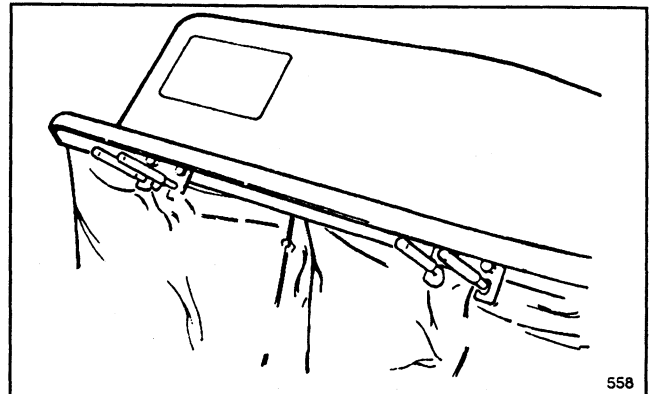

Figure 8
4. Lift rear of bag up to bag cover. Squeeze bag handles, allowing them to be positioned in bag frame brackets. Release bag handles, locking them in brackets (Fig. 8).